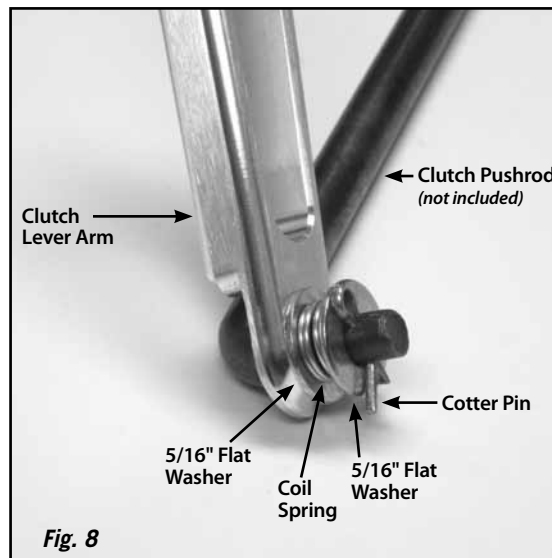
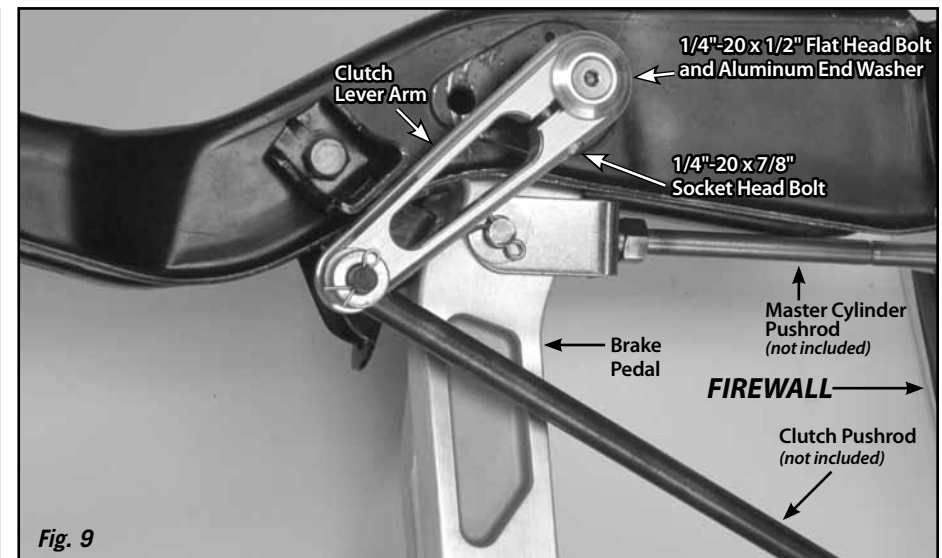

Fig. 8
Fig. 9
Step 7: Connect the clutch lever arm to the original clutch pushrod (not included) using a 5/16" flat washer, the coil spring, another 5/16" flat washer, and small cotter pin as shown in **Fig. 8**. Then install the clutch lever arm onto the right hand end of the splined shaft. Install the 1/4"-20 x 1/2" flat head bolt and aluminum end washer onto the right hand end of the splined shaft. Tighten the 1/4"-20 x 7/8" socket head bolt in the clutch lever arm to clamp it into place. **Fig. 9**